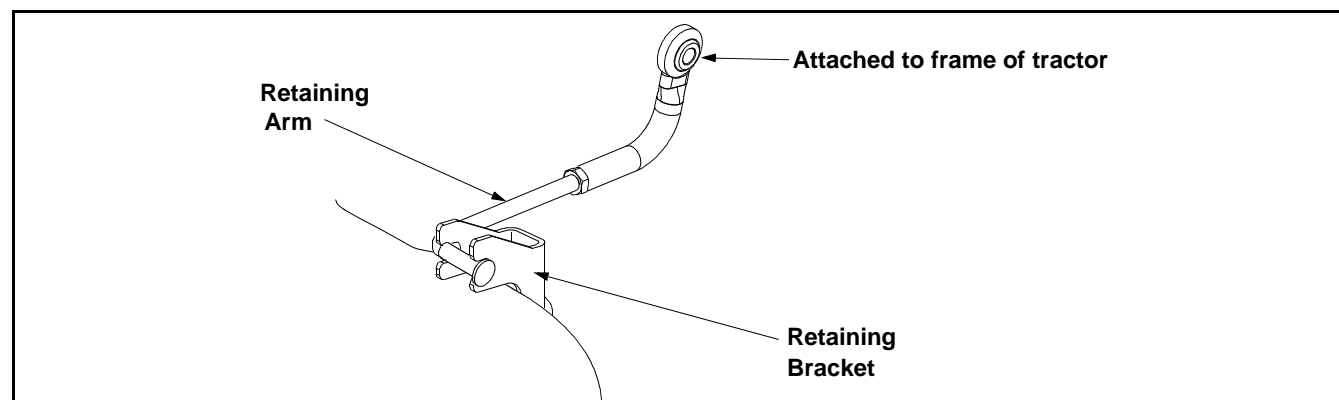

Figure 26
15. From the front of the Z-series, pull the mower deck towards you. This will release the retaining arms from the mower deck. There are two retaining arms one for each side of the deck. (See Figure 26)
6. Slide the mower deck backwards to insert the retaining arms into the brackets. (See Figure 26)